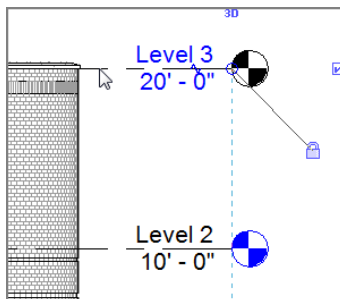

FIGURE 3.7: The completed Level 3. Remember, you're still in the Level command until you tell Revit to stop.
7. You should now have a Level 3 at 20' (6000mm), as shown in Figure 3.7.